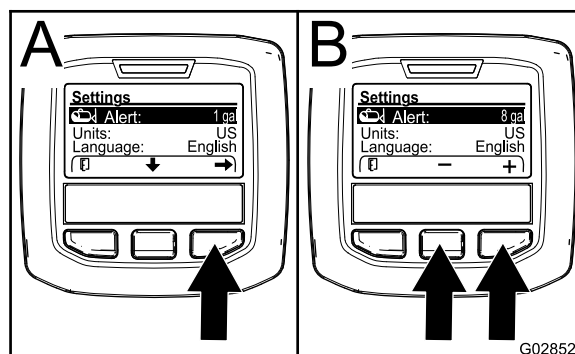

Figure 69
- Press the center selection button to highlight the Alert setting (Figure 69).
- Press the right selection button (Figure 69).
- Use the center or right selection buttons to enter the minimum quantity in the tank when the alert displays during sprayer operation (Figure 69).